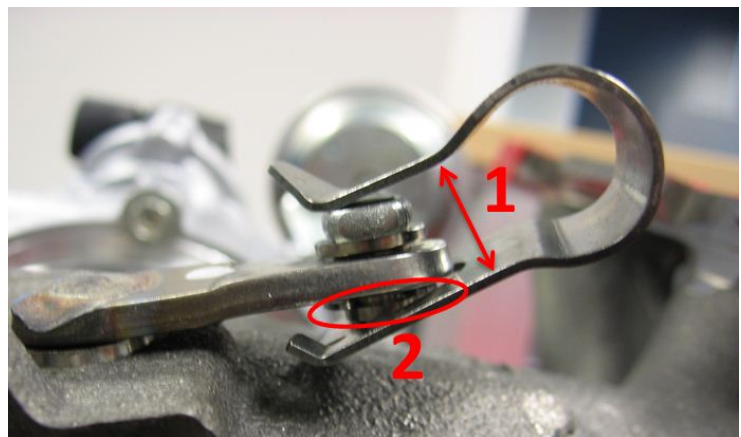

Figure 5. (1) Maximum opening of clip, (2) Position of original circlip
4. After fitting the spring clip, check the position of the original circlip (Figure 5, 2) and correct it if necessary.